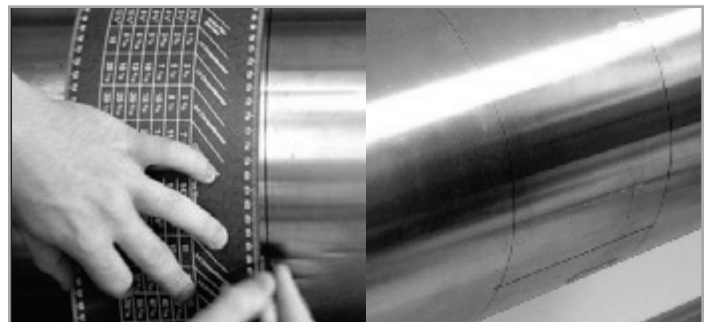

Figure 31: Marking the 9 o'clock position
4. To find the coinciding point on the opposite side of the pipe (180° away from each other), divide the measured circumference by 2 and measure this distance along the circumferential lines from the zero point, as shown in Figure 31 below. Place marks on both sides of the circumferential lines made with the layout wrap and connect the marks.